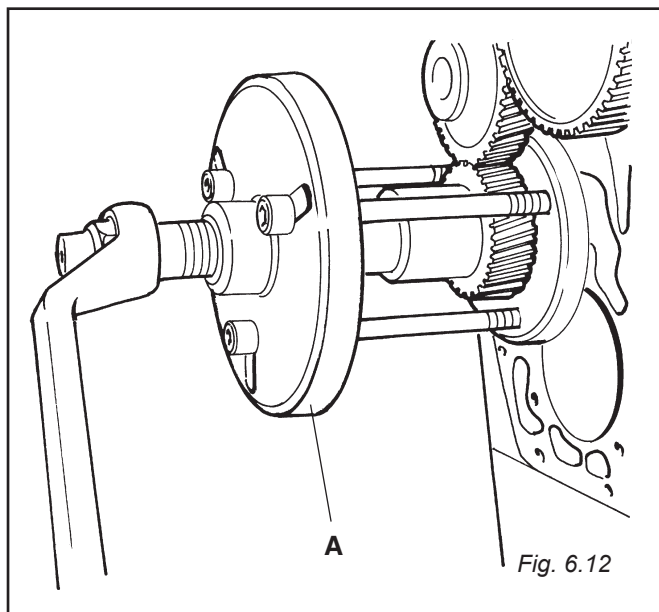

Fig. 6.12
6.8 CRANKSHAFT (FIG. 6.12 - 6.13 - 6.14 - 6.15)
Immerse the crankshaft in a bath of solvent and remove all sludge from the oil ways. Check that the crankshaft is not cracked. Check that the spigots, mating surfaces and threads are not scored, distorted or worn. Check that the timing gear teeth are not worn or damaged. To replace the timing gear, use tool **A** (TABLE 11.1 ref. D) to disassemble (Fig. 6.12). To reassemble, heat the new gear in an oven to **180 - 200 °C** and fit, after centring the key.